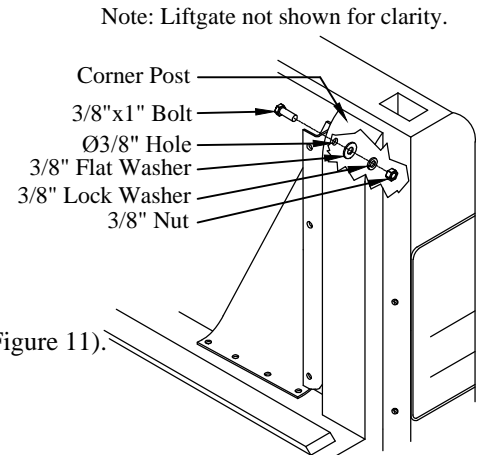

Figure 11: Additional support location.
1. **Locate** the existing 3/8" hole in the mounting bracket (Figure 11).
- (1) 3/8"x1" hex head bolt on the bracket-side (Figure 11).
- (1) 3/8" flat washer, (1) 3/8" lock washer, and (1) 3/8" nut on the truck-side (Figure 11).